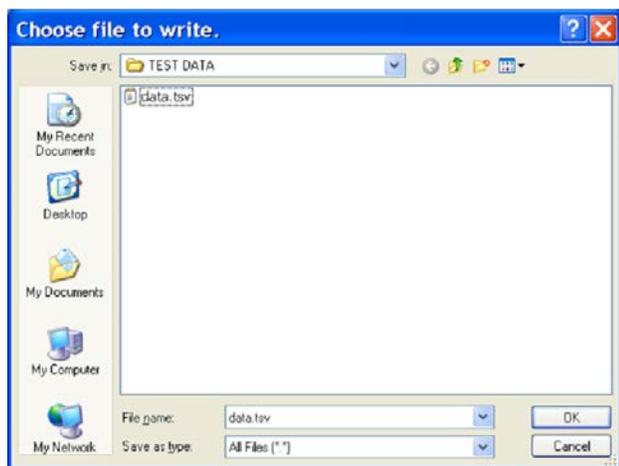

Figure 17. Save File Dialog Box: Saving Data as .tsv
- **Save Data as .tsv:** save captured data in .tsv format for future analysis (see Figure 17).